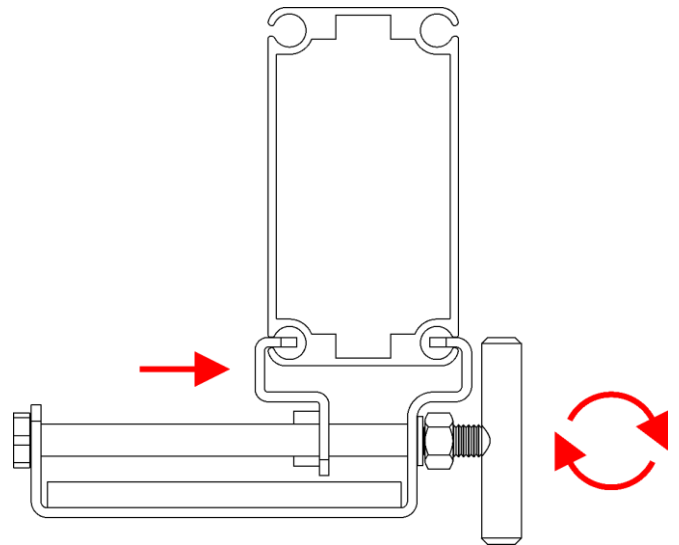

Fig. 05
- 02) Turn the **handle nut (03)** clockwise until the device is mounted firmly in position (Fig. 05).